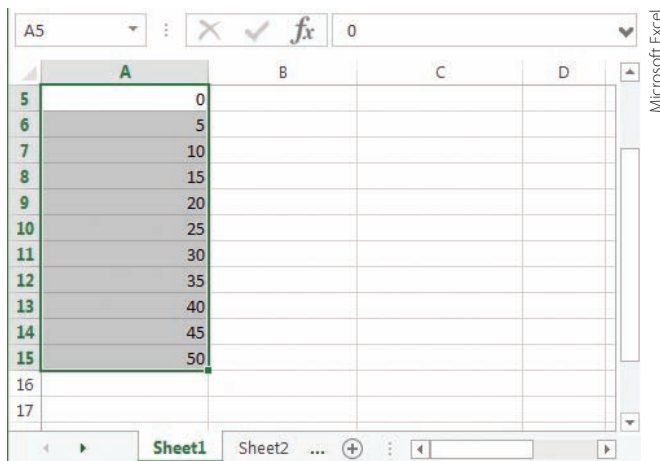

FIGURE 14.4
4. Pick cells A5 and A6 and use the **Fill** command with the + handle to copy the pattern into cells A7 to A15 (Figure 14.4).